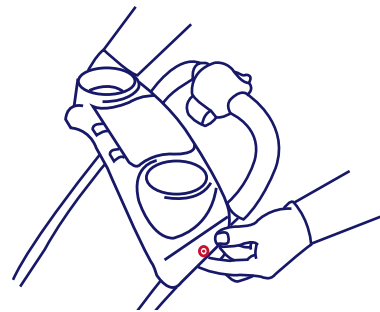

Figure 4.
- To attach the parent tray, position the tray so that the hinges for the storage compartment are facing forward. Attach one end at a time by locating the fitting at the top of the frame and the hole on the side of the parent tray, snap together. Repeat for other side. Check that the tray is securely latched in place. Please see figure 4. To remove parent tray, reverse the installation steps.